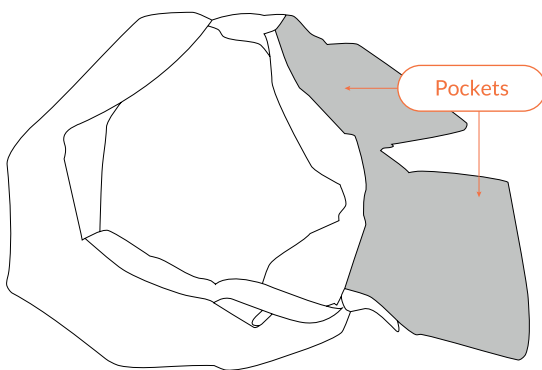

Fig 36 – Lay pockets outside of empty bag
15. Once the platform has been fully rolled it can be placed back into the bag, before doing so ensure the bag is fully open with the pockets facing out see (Fig 36). NEVER store uncovered or out of the bag.